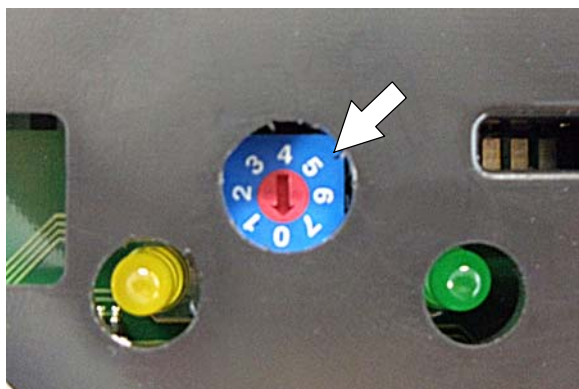

FIG. 46
4. Using a small standard screwdriver, turn the dial to the appropriate battery type according to the following chart (Figure 46).